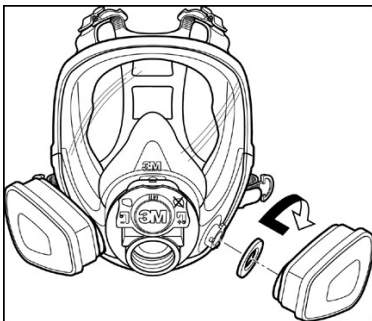

Fig. 2
2. Turn cartridge clockwise to stop (1/4 turn). Repeat with second cartridge. (Fig. 2)